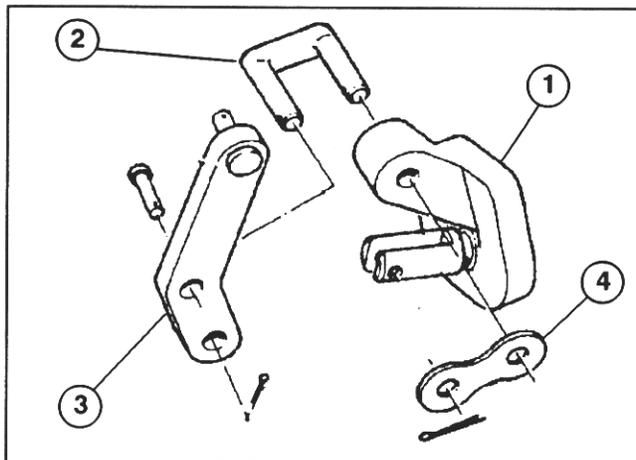

Figure 14
1. Mount valve control lever to valve spool bracket with a link pin and connecting link, as shown in figure 14.
2. Mount bottom of valve control lever to valve spool with a clevis pin and cotter pin, as shown in figure 14. Repeat procedure on other valve section. Coat pins with #2 grease.